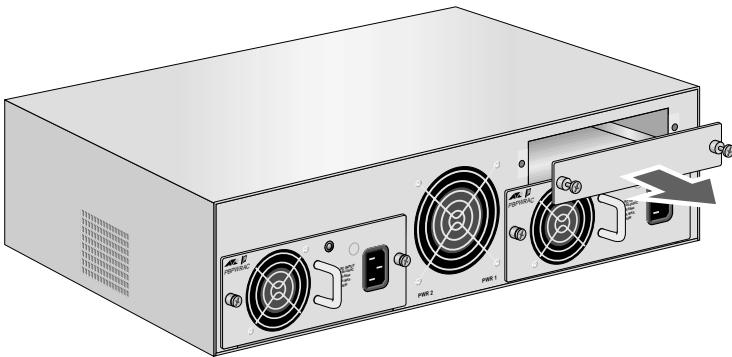

Figure 22 Removing the Management Module Blank Faceplate
2. Remove the blank faceplate covering the management module expansion slot by loosening the two thumbscrews. See Figure 22.